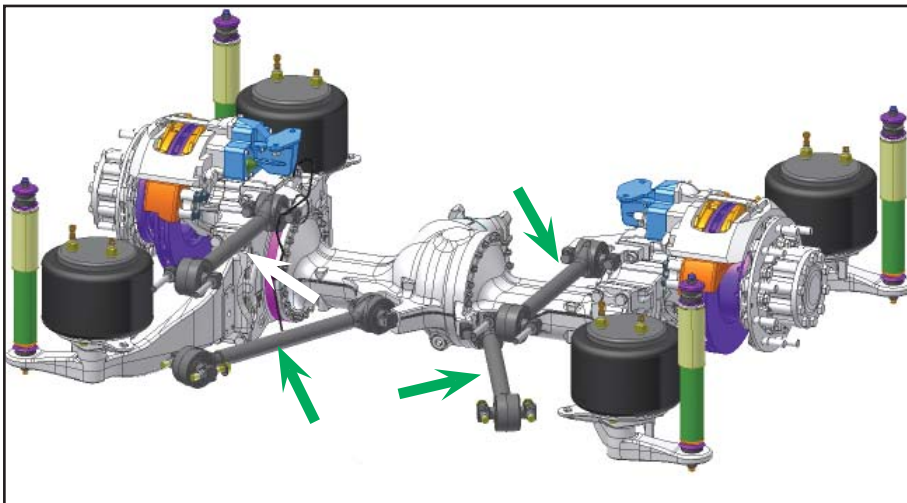

Figure 3 - Rear Axle Radius Rods (4x)
1.7. Locate the four radius rods on the rear axle. See Figure 3.